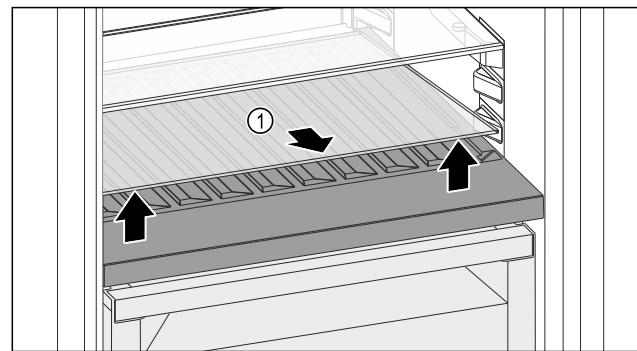

Fig. 139
- ▶ Lift the glass shelf Fig. 139 (1) at the front and remove.
- ▶ Store the glass shelf Fig. 139 (1) in a safe place outside the appliance.